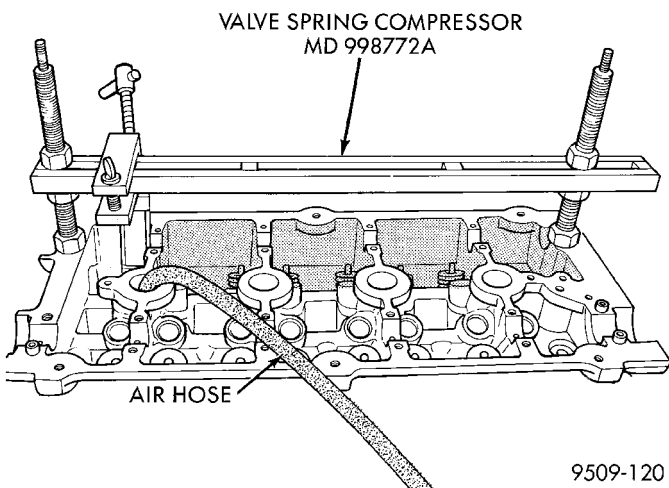

Fig. 29 Removing and Installing Valve Spring
- (1) Remove camshafts as previously outlined in this section.
- (2) Rotate crankshaft until piston is at TDC on compression.
- (3) With air hose attached to adapter tool installed in spark plug hole, apply 90 - 120 psi air pressure.
- (4) Using Special Tool MD998772A with adapter 6779 (Fig. 29) compress valve springs and remove valve locks.